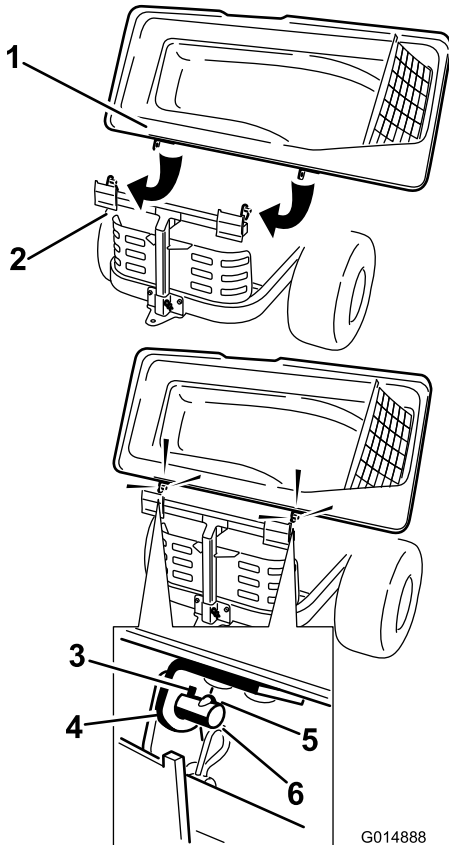

Figure 17
2. Rotate the bagger top to align the key holes in the bagger top brackets with the keys in the posts on the bagger frame (Figure 17).